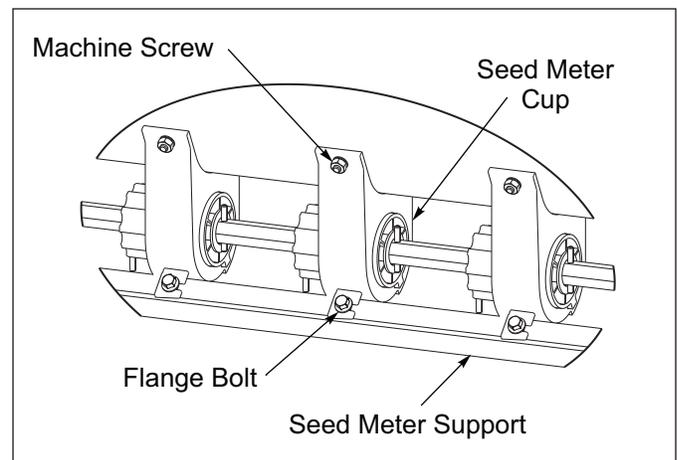
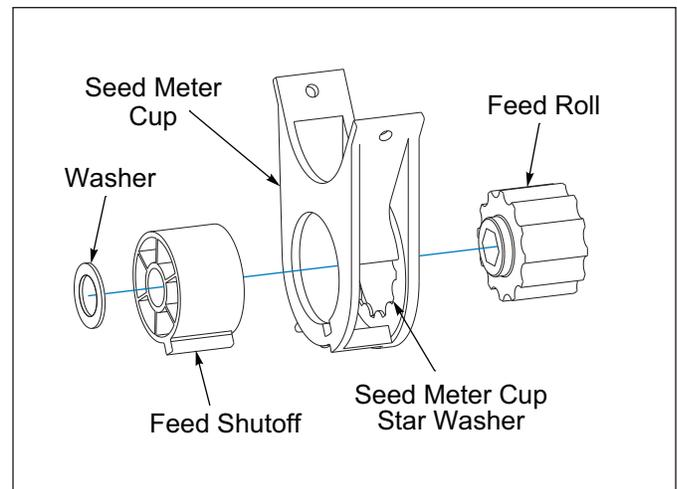

Figure 4-11: Large Seed Meter Support
Figure 4-12: Large Seed Meter
Individual Large Seed Meter Cups can be adjusted as required. Adjustments can be made by loosening the 1/4-20 x 5/8 Machine Screws that mount the Seed Meter Cup to the Seed Box and the 1/4-20 Nut that attaches the Seed Meter Support to the Seed Meter Cup. **See Figure 4-11.** Adjust the affected Seed Meter Cup so the Feed Shutoff is against the Seed Meter Cup Star Washer in the Seed Meter Cup (closed). Be sure the Feed Roll stays engaged in the Seed Meter Cup Star Washer. **See Figure 4-12.** Re-tighten 1/4-20 Hardware. Check for binding by turning Seed Shaft. After adjustments have been made, seal around the Large Meter Cups where they make contact to the Seed Box with clear Silicone.
- Ensure that the Washers are adjacent to Seed Meter Feed Shutoffs. **See Figures 4-12 and 4-14.**